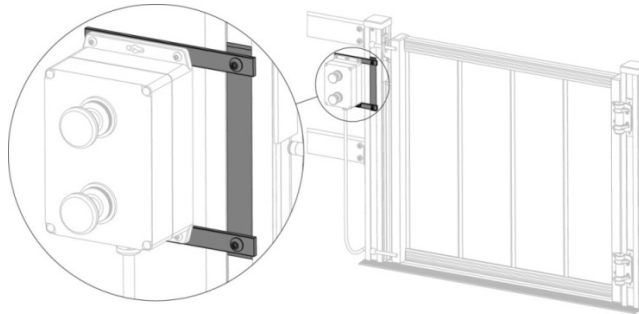

FIG. 13.1
The Call/Send Control Mounting Kit (FIG. 13.1) option contains the necessary hardware to quickly attach your Call/Send Control of your Top Landing Gate post. Multiple Call/Send Controls can be used with your VPL. Please contact your dealer if you are interested in this, or any other option. Or call 1-800-451-1903, or visit us online at www.ezaccess.com.
1. The Top Landing Gate Call/Send Control Mounting Assembly mounts the Call/Send Control to the Top Landing Gate post. It includes two mounting bars, one attachment bar and the needed hardware (FIG.13.1). The Call/Send Control is ordered separately.